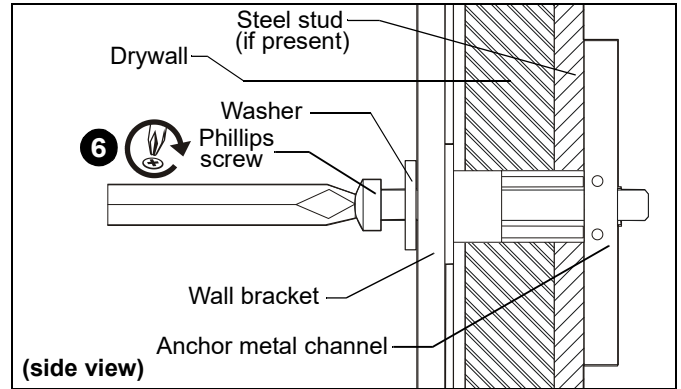

Figure 32
6. Insert 1/4-20 x 1-3/4" Phillips pan head screw through 1/4" washer, corresponding mounting hole in wall bracket and into anchor, and tighten until flush against wall bracket. DO NOT over tighten! (See Figure 32)